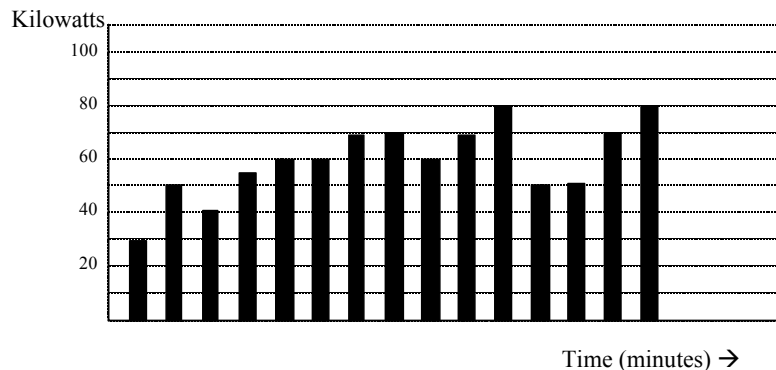

Figure 1.7: Power Use Over Time
- Figure 1.7 shows a graph of power and the resulting energy that would be transmitted as a result of the illustrated power values. For this illustration, it is assumed that the power level is held constant for each minute when a measurement is taken. Each bar in the graph will represent the power load for the one-minute increment of time. In real life the power value moves almost constantly.
- The data from Figure 1.7 is reproduced in Table 2 to illustrate the calculation of energy. Since the time increment of the measurement is one minute and since we specified that the load is constant over that minute, we can convert the power reading to an equivalent consumed energy reading by multiplying the power reading times  $\frac{1}{60}$  (converting the time base from minutes to hours).
As in Table 1.2, the accumulated energy for the power load profile of Figure 1.7 is 14.92 kWh.
- Demand is also a time-based value. The demand is the average rate of energy use over time. The actual label for demand is kilowatt-hours/hour but this is normally reduced to kilowatts. This makes it easy to confuse demand with power. But demand is not an instantaneous value. To calculate demand it is necessary to accumulate the energy readings (as illustrated in Figure 1.7) and adjust the energy reading to an hourly value that constitutes the demand.